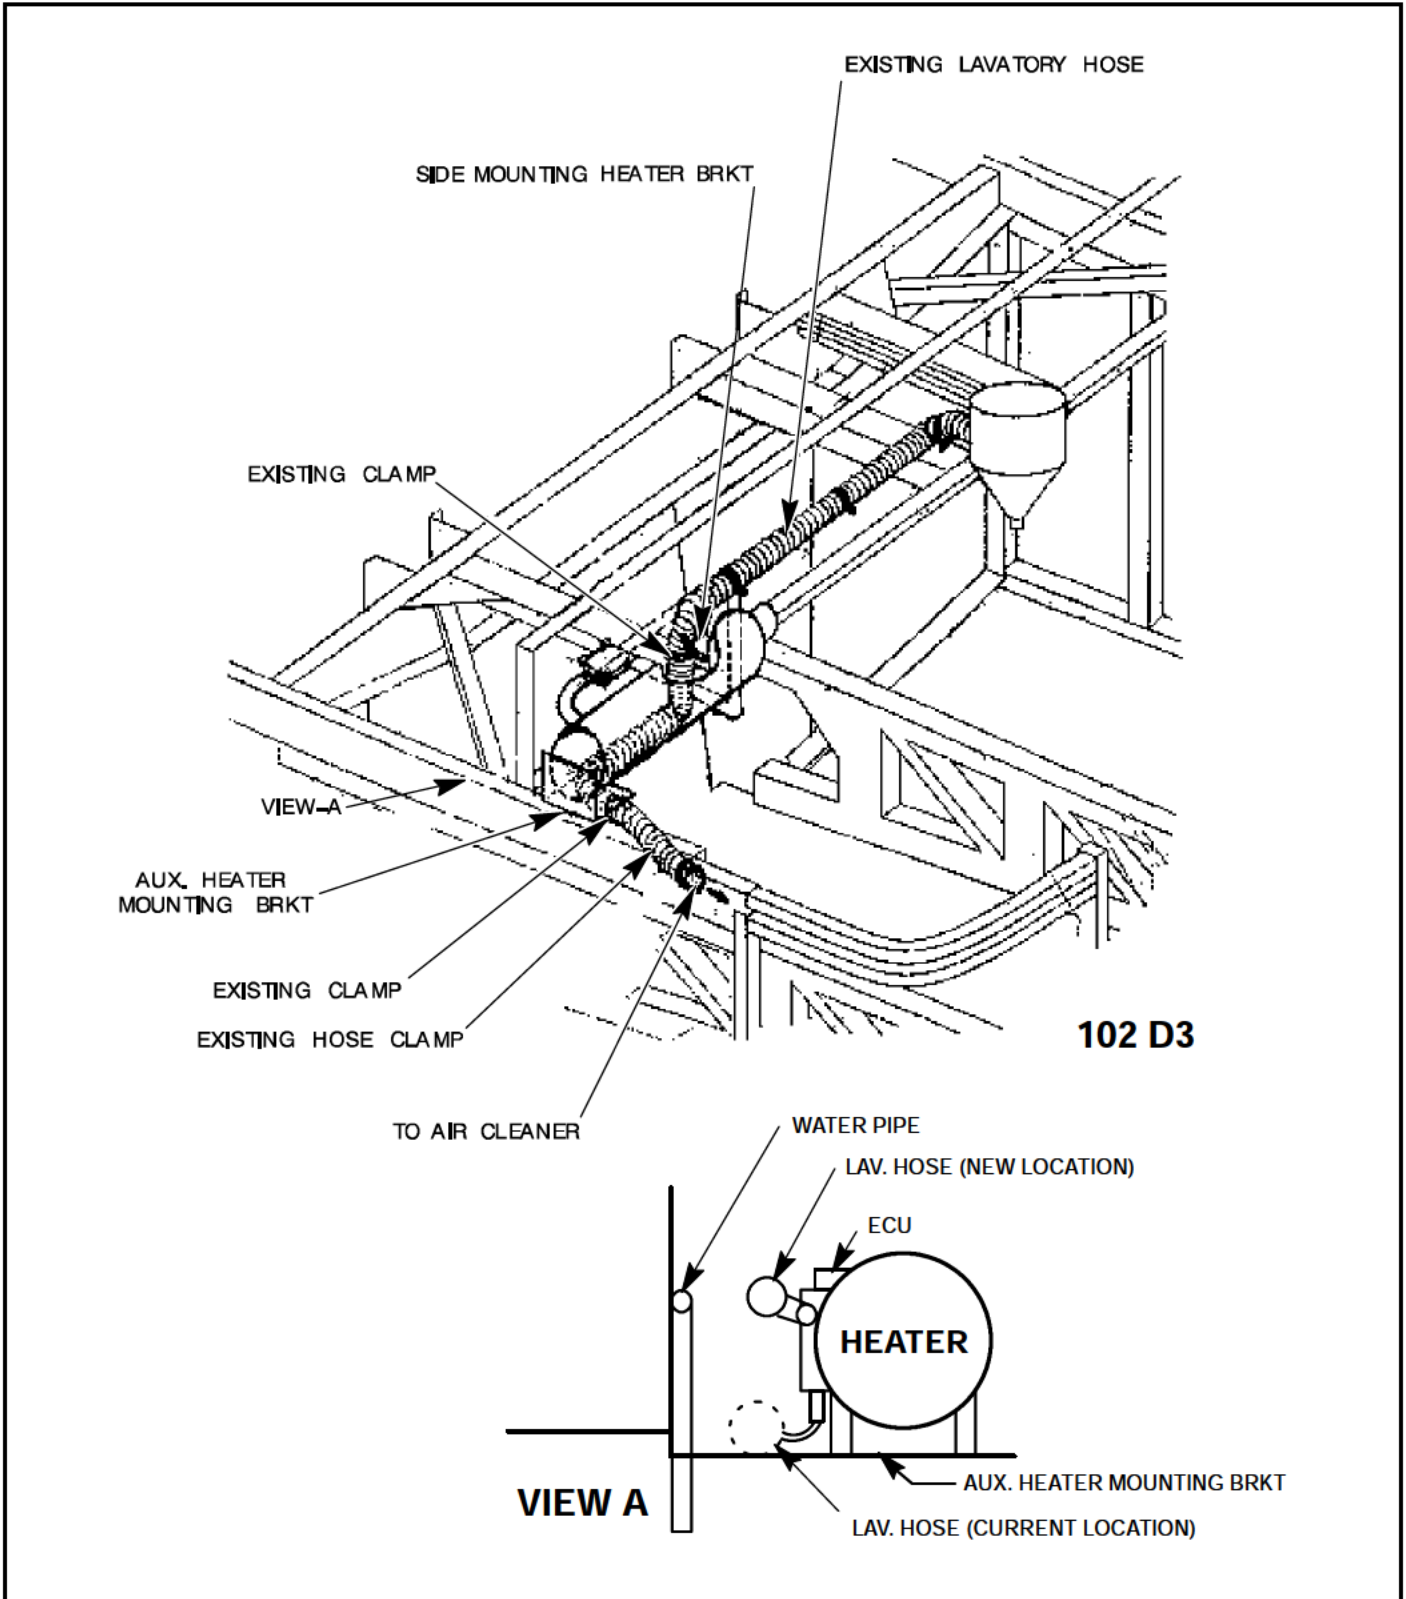

Figure 4: D3 Routing and Connection Details
1. Loosen the hose clamp and remove the lavatory hose from the air cleaner (Figure 4).
2. Remove the two securing clamps from the auxiliary heater mounting brackets (Figure 4).